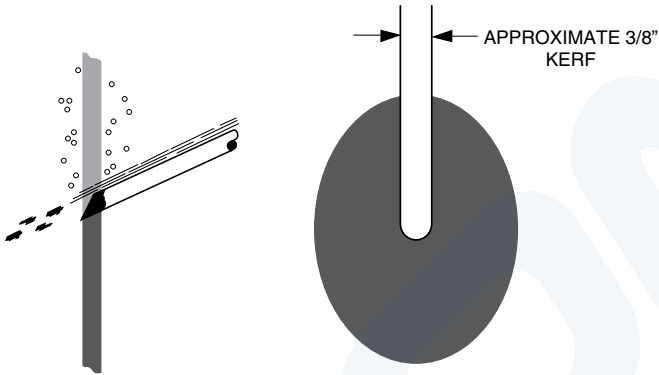

Figure 7: Removal of Structures
- Remove unwanted structures but may not be practical for metal over one inch thick (Figure 7).